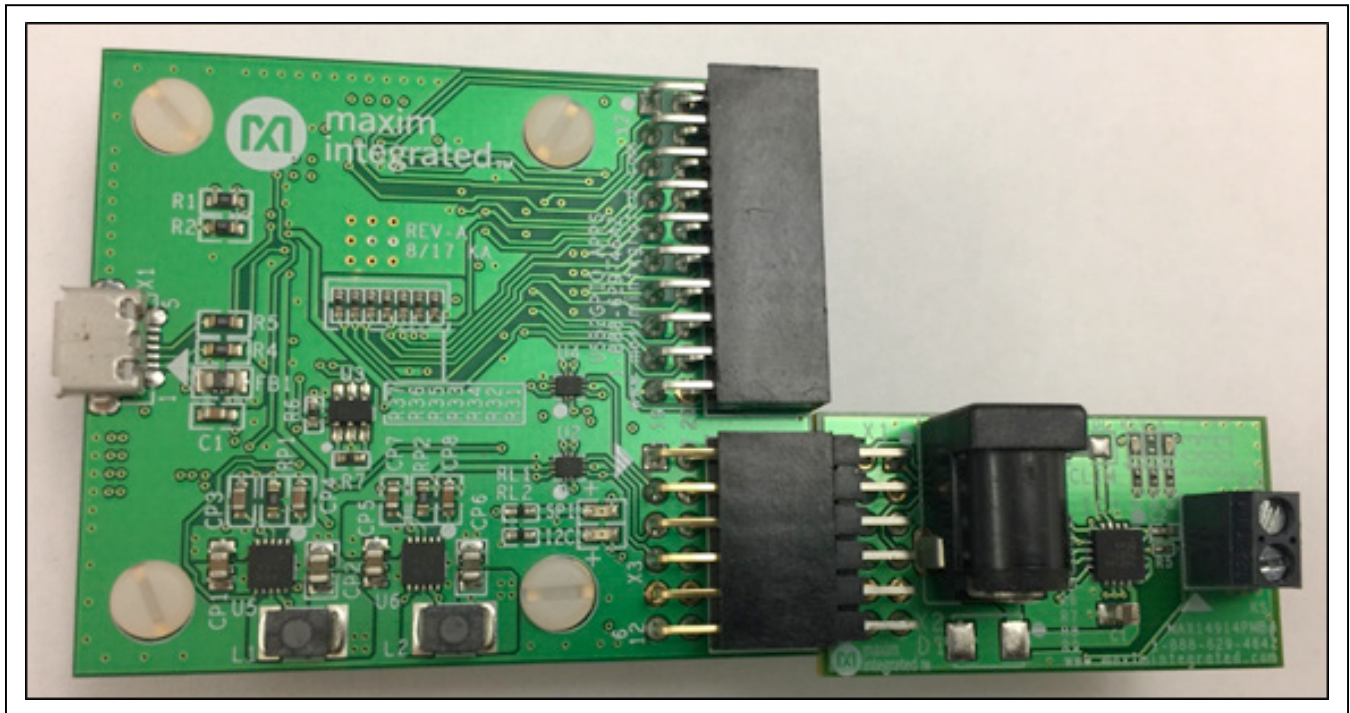

Figure 2. USB2GPIO# Board Connected with MAX14914PMB#
- 4) Connect the USB2GPIO# board's 2 x 6-pin, right-angle connector to the companion device's 2 x 6-pin, right-angle header, as shown in Figure 2.